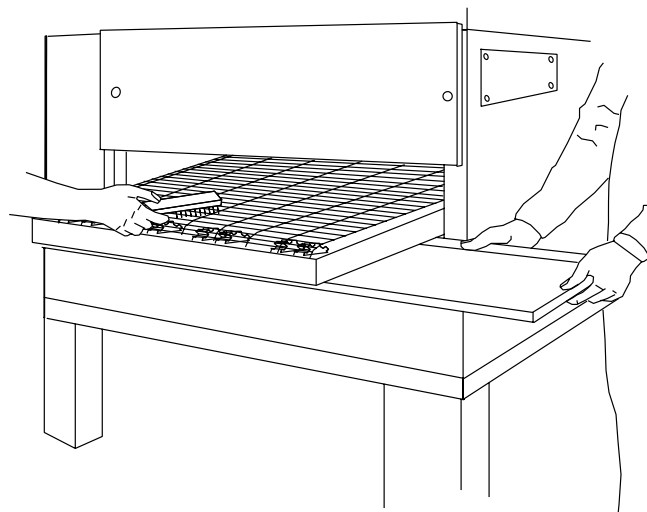

Figure 4-2. Conveyor Belt and Crumb Pan Cleaning
C. Conveyor Belt (Figure 4-2)
D. Crumb Pans (Figure 4-2)
When the oven is cool remove and clean the crumb pan at each end of the oven. Each crumb pan can be removed by sliding it out, as shown in Figure 4-2. Reinstall the crumb pans after cleaning.